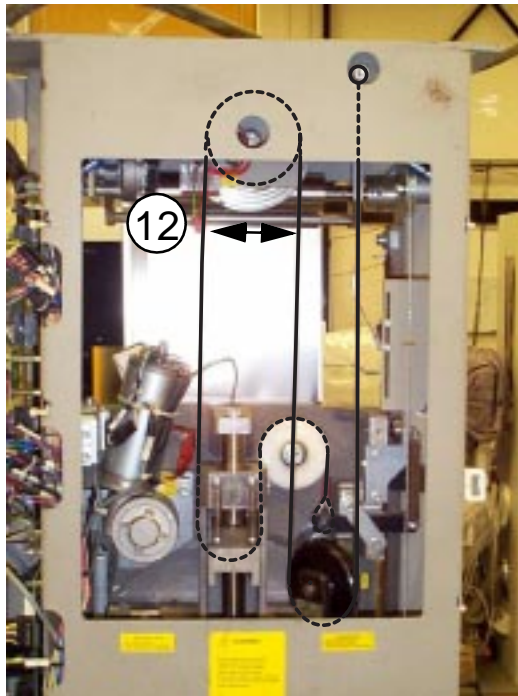

Fig. 8
2. Attach a cable tie to the steel rope (see Fig. 8, pos. 12). This will keep the rope in place while installing it.
14. Expand the balancing spring a little so that the steel rope begins to tighten, then remove the cable tie (see Fig. 8, pos.12).